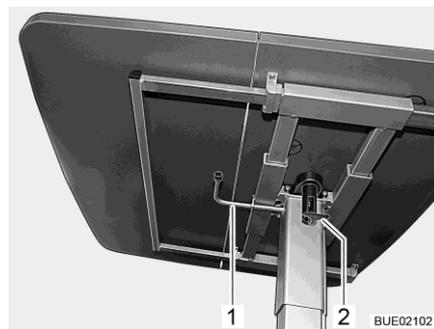

Fig. 125 Lift-off table
- Fold down the catch lever (Fig. 125,2).
- Swivel the lever (Fig. 125,1) underneath the table top by 180° in a clockwise direction. The lifting mechanism in the table leg is unlocked.
- Swivel the lever (Fig. 125,1) underneath the table top by 180° in a clockwise direction. The table top moves automatically upwards to the limit stop.